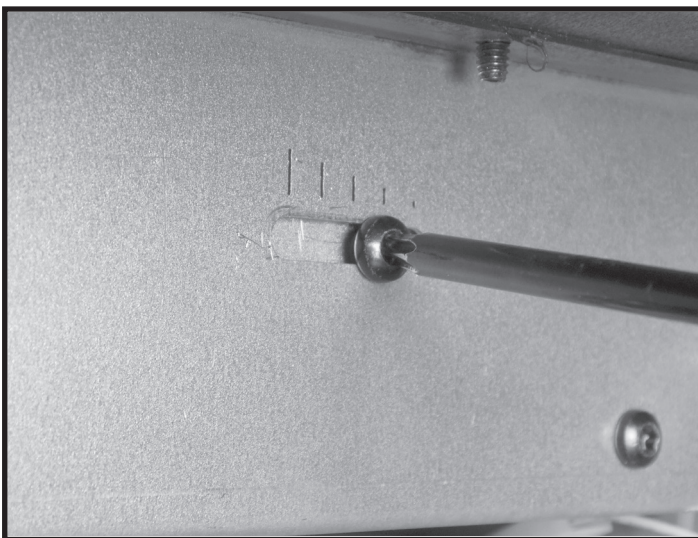
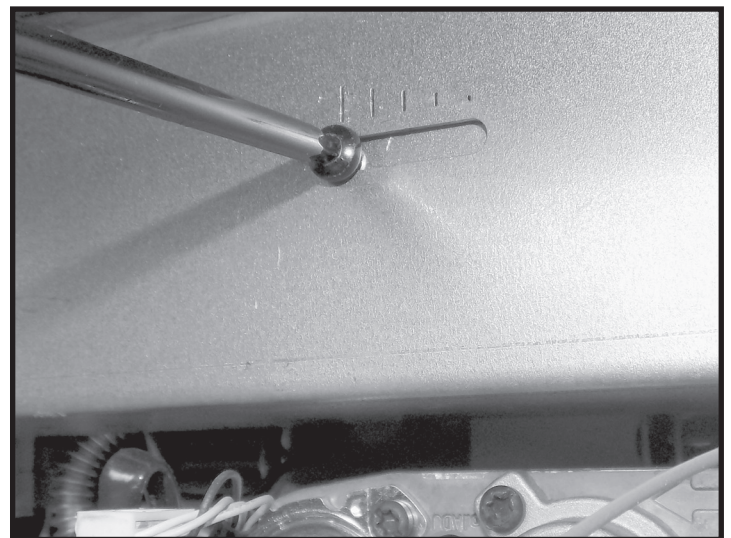

Figure 50: Initial venturi setting for natural gas.
Figure 51: Initial venturi setting for propane gas.
2. Once the burner is seated and secured, adjust the venturi air shutter, located under the firebox floor, as follows: for natural gas, keep the setting on the right side of the adjustment slot (Figure 50). For propane gas, keep the setting on the left side of the slot (Figure 51). Further venturi adjustment can be easily made later once the Esprit is lit.